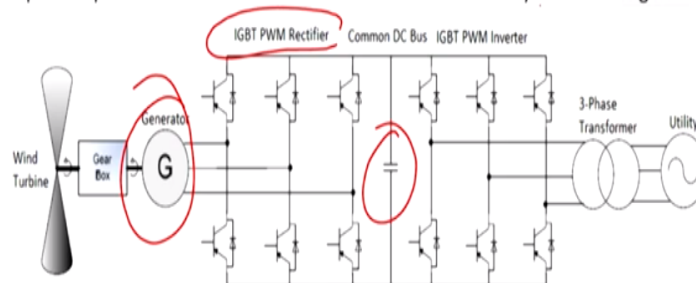

Fig.3: Synchronous generator power electronics configuration
- The most widely used power electronics topology for the wind energy application is the back-to-back rectifier/inverter connection which provides the improved power flow control as well as increased efficiency shown in Fig.3.